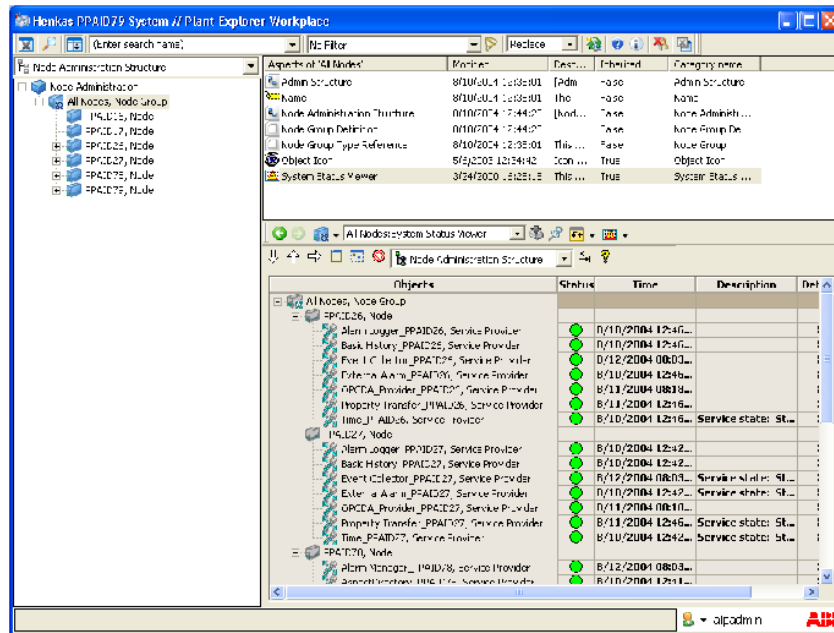

Figure 3. Verifying that Connectivity Servers and Services Are Running
- c. Use the Object Browser to navigate to and select **All Nodes, Node Group** as shown in Figure 3.